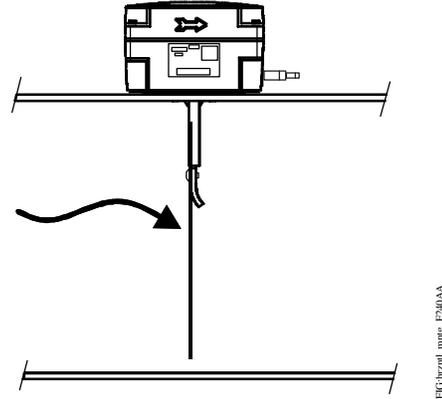

Figure 4: Mounting the F240AA Switch in a Horizontal Duct
- Mount the switch in a horizontal duct whenever possible. In a horizontal duct, the switch housing must be level, and the paddle should be at approximately a right angle to the airflow (Figure 4).